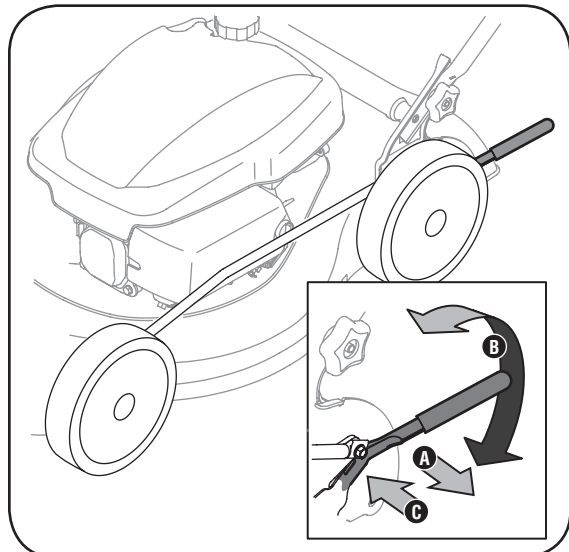

Figure 3-8: Use adjustment levers at each wheel to change the cutting height.
1. The cutting height adjustment lever is located above the rear left wheel. See Figure 3-8.